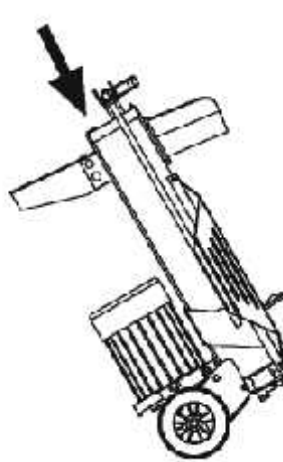

**Fig.22**
- Remove the dipstick and check the oil level is between the two points ("a" and "b") (Fig.22).